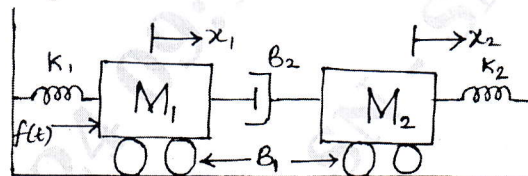

Fig.Q.2(a)
- 2 a. For the mechanical system shown in Fig.Q.2(a). Draw the mechanical network and obtain the FV analogous electrical systems. (08 Marks)